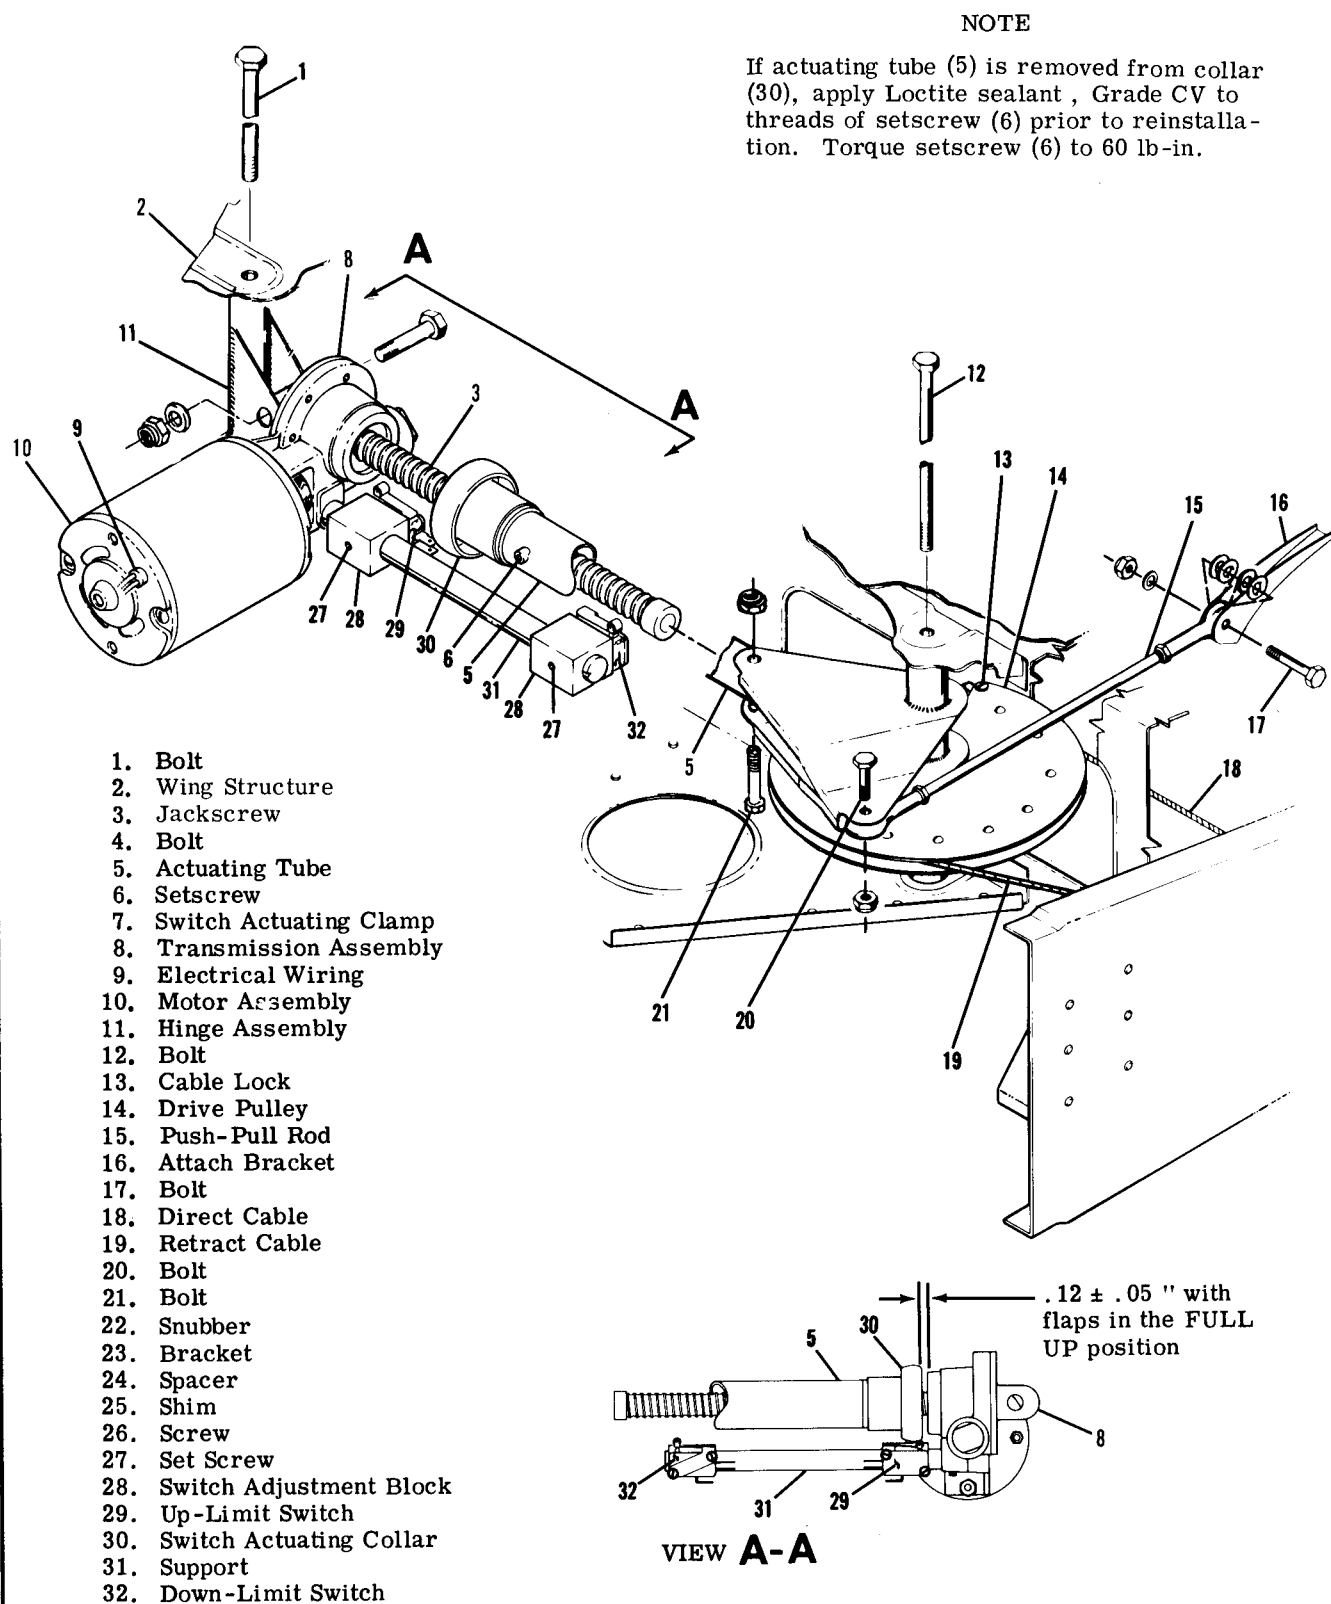

Figure 7-2. Flap Motor and Transmission Installation
#### 7-6. REMOVAL AND INSTALLATION (Refer to figure 7-2.)
#### 7-8. DRIVE PULLEYS. (Refer to figure 7-2.)
- d. (Refer to figure 7-2.) Disconnect push-pull rods (15) at drive pulleys (14) in both wings and lower RIGHT flap gently.
- e. Disconnect actuating tube (5) from drive pulley (14).
g. (Refer to figure 7-2.) Screw actuating tube (5) IN toward transmission (8) by hand to  $.12 \pm .05$  inches between switch actuating collar (30) and transmission as illustrated in View A-A.
h. Loosen setscrew (6) securing actuating tube (5) to switch actuating collar (30) and hold collar to maintain  $.12 \pm .05$  inch while holding RIGHT flap in the full UP position and adjust actuating tube (5) IN or OUT as necessary to align with attachment hole in drive pulley (14).
i. Apply Loctite grade CV sealant (or equivalent) to threads of setscrew (6) and torque to 60 pound-inches.
j. Run flaps to full DOWN position ( $40^{\circ}+0^{\circ}-2^{\circ}$ ) and check that flaps DOWN operating switch (18) remains closed as flap motor limit switch (index 32, figure 7-2) stops flaps of full DOWN position.